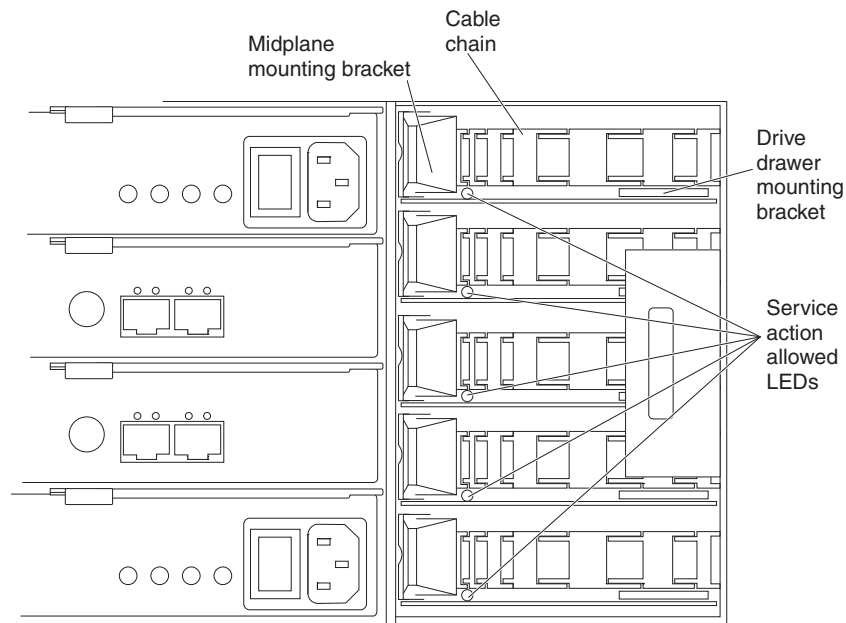

Figure 58. Rear view of the storage expansion enclosure with the right fan assembly removed
- a. At the rear of the drive enclosure, remove the right fan assembly. See “Replacing a fan assembly” on page 108 for the steps to remove a fan assembly. Figure 58 on page 111 indicates the area with the fan assembly removed.